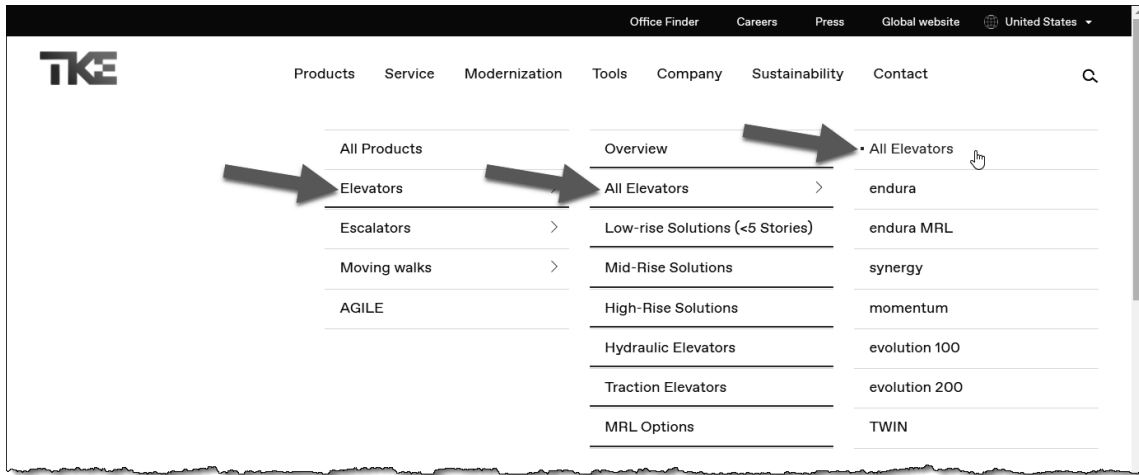

FIGURE 4-3.2 Select the 'All Elevators' option under Products
3. Click the **Products** → **Elevators** → **All Elevators** → **All Elevators** (Fig 4-3.2).